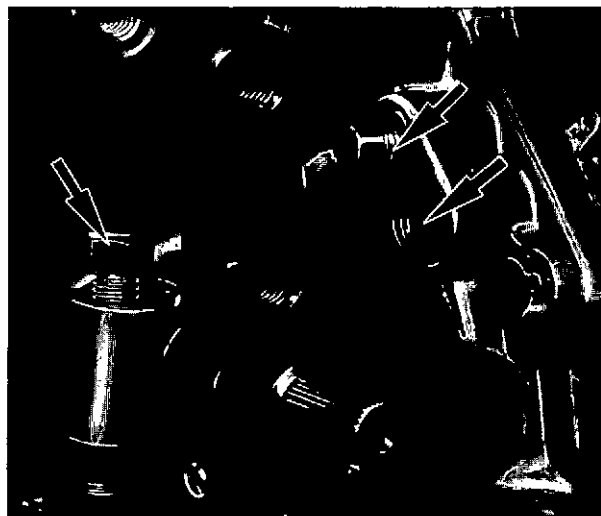

Fig. 61 Control lever stops and seal
- (iii) Set the control lever on the MAX. FUEL stop (fig. 61, Item 'B'). Referring to the Table in Stage 'C' of the appropriate Test Schedule, run the pump and note the speed at which the rack commences to move, as indicated by the dial gauge. This speed should be between the two quoted in Col. 3. If the speed recorded is incorrect, extract the lead seal, (fig. 61, Item 'A'), remove the cover screw beneath it and adjust the MAX. SPEED stop 'B' as necessary. Screw the stop clockwise to increase speed, and vice versa. On completion, tighten the stop locknut, refit its cover, and replace the rack access plate.
Adjust the stop (fig. 61, Item 'C') to give fuelling of 2 ccs. per 100 strokes at 325 r.p.m. Final adjustment is made on the engine at installation.